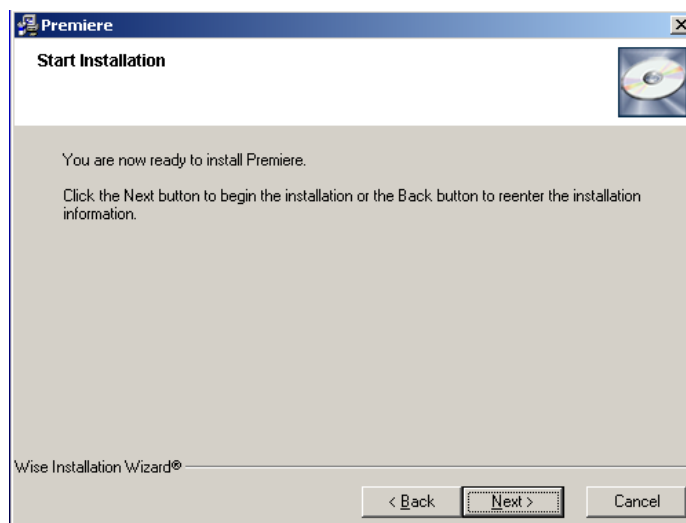

FIGURE 39: Start Installation Screen
6. The next screen that appears (see Figure 39) contains information that advises the installation is about start. Click on the **Next** function button to continue the installation.